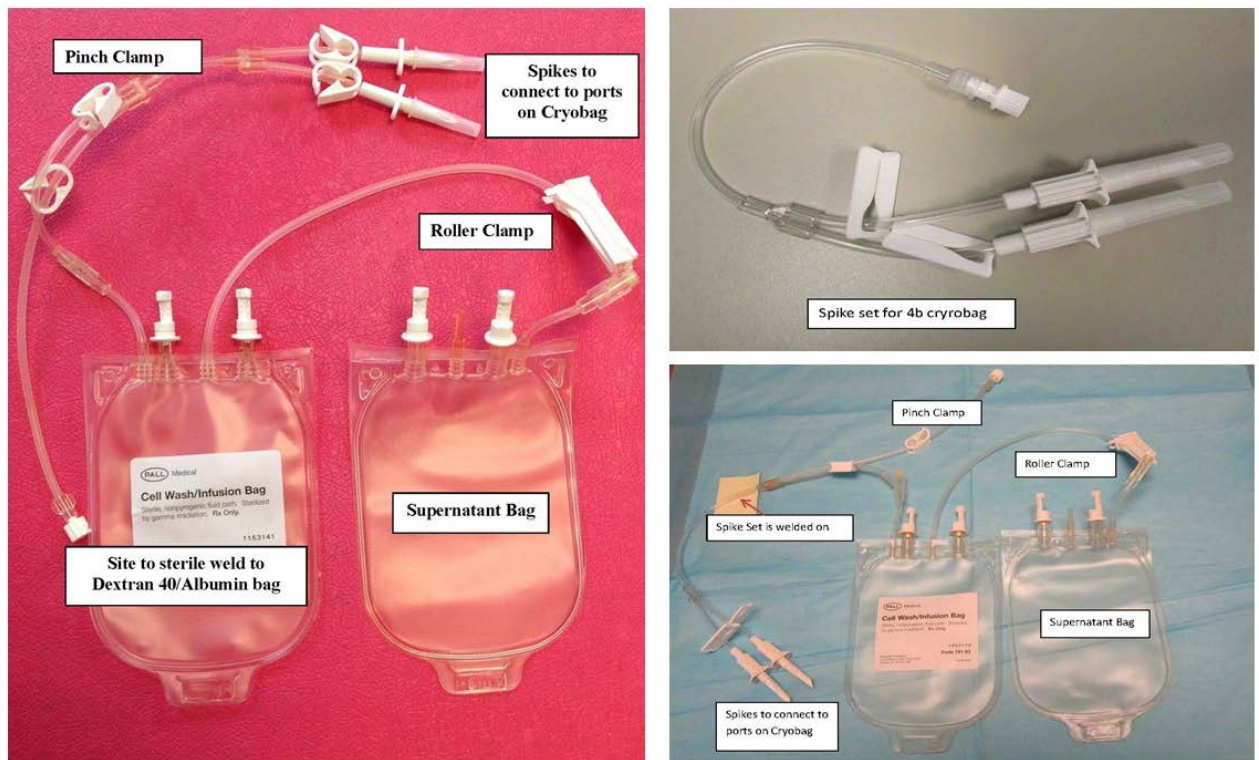
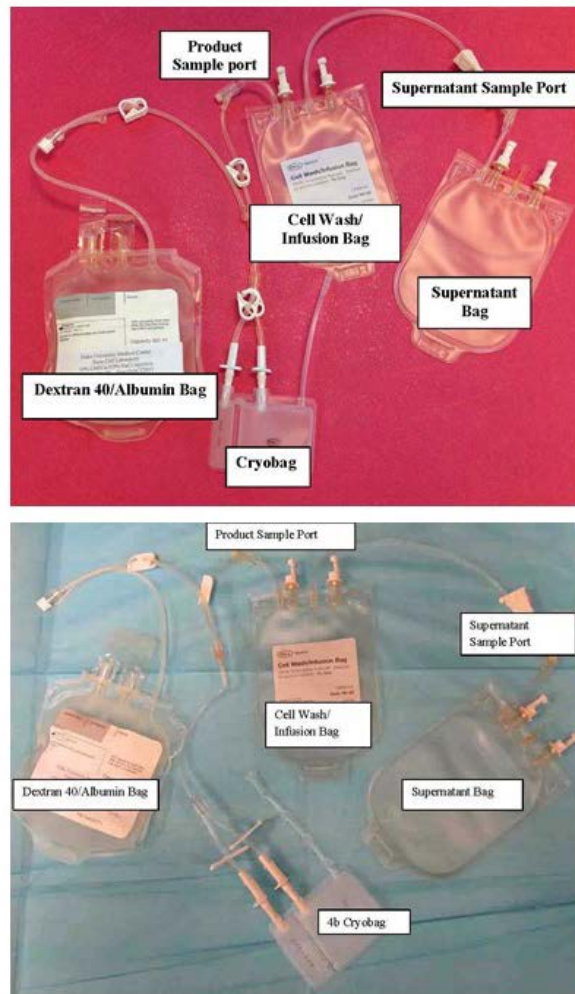

Figure 1 –Cell Wash/Infusion Set (left), Spike Set for 4b Bag Only (top right) and Cell Wash/Infusion Set for 4b bag (bottom right)
Figure 2 – Bag Configuration (top with Pall bag and bottom with 4b bag)
- a. Clamp all tubing and place assigned labels on the cell wash/infusion bag set (cell/wash infusion bag attached to supernatant bag) (see Figure 1).
- b. Sterile weld the cell wash/infusion set to the Dextran 40/Albumin bag (see configuration in Figure 2).
- f. Insert the spikes (see Figure 6d) on the infusion bag (see Figure 1) in the dry and disinfected ports on the cryobag one at the time (see Figure 2).